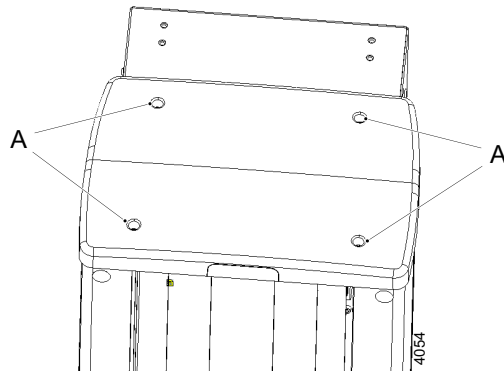

Fig. 4-175 Remove cover
16. Attach the plastic top cover and tighten the 4 screws (A) see **Fig. 4-175**.